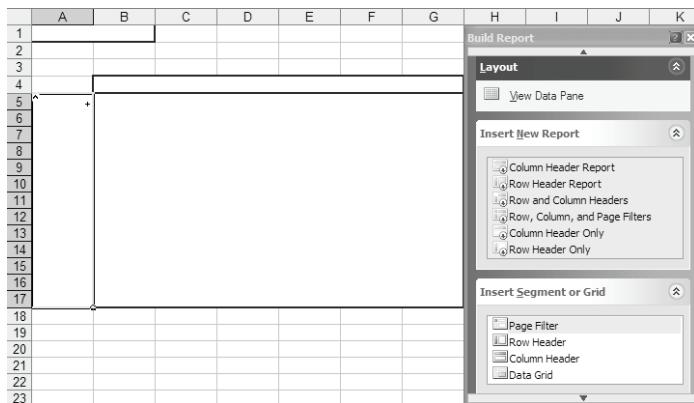

Figure 19.14 Start creating a structured report by defining its layout first.
1. Make sure the Layout pane of the Report Builder window is selected. Select the *Row, Column, and Page Filters* template (the most complex template) found in the *Insert New Report* section. The Excel add-in creates a four-section report that consists of row axis, column axis, page filter axis, and data grid (Figure 19.14).